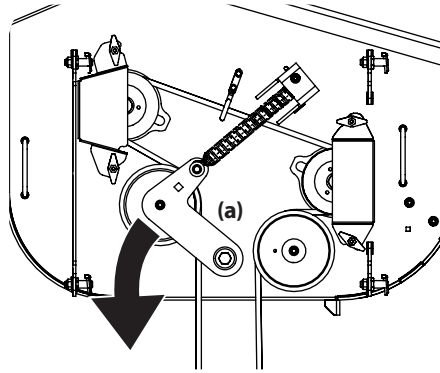
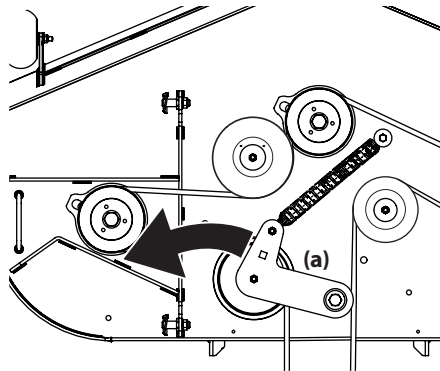

Figure 16
Figure 17
3. Using a 1/2" drive in the idler pulley bracket (a), turn the wrench counter-clockwise and slide the deck belt off the PTO pulley. See Figure 16 for 36" decks and Figure 17 for 48" and 54" decks.